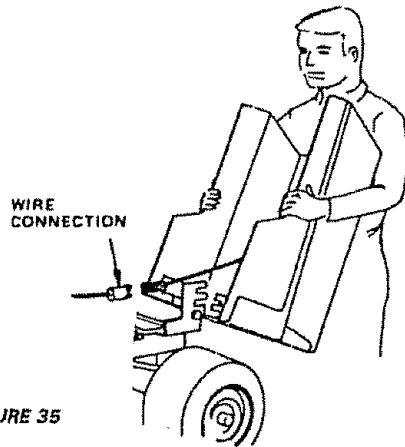

FIGURE 35
- a. Lift hood. Disconnect headlight wiring connection (Fig. 35).
- c. Pivot hood and side panel forward and lift off tractor (Fig. 35).